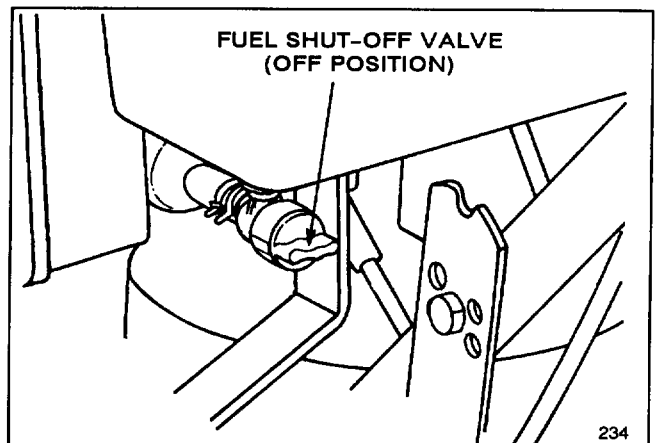

Figure 17
2. Turn fuel shut-off valve to OFF position (Fig. 17).